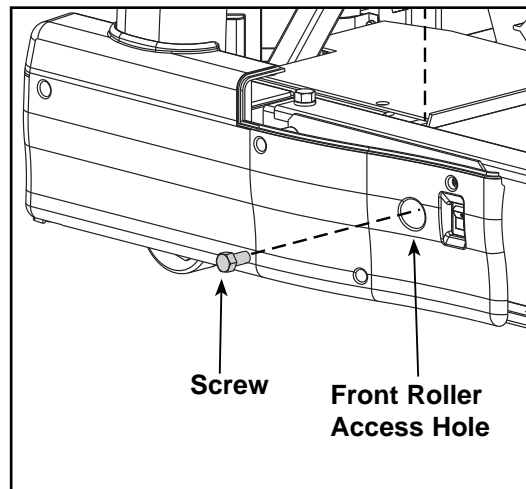

Figure 9
- A. Place a 9/16" socket wrench with a 3" extension in the left front roller access hole. Remove the left front roller screw. See Figure 9.
- B. Using a 9/16" socket wrench with a 3" extension, remove the two front roller screws. See Figure 9.
- B. Using a 9/16" socket wrench with a 3" extension, insert the two screws that fasten the front roller to the frame. **NOTE:** Tighten each of the two screws evenly, making sure not to tighten one screw too many turns before moving to the other screw. See Figure 9.